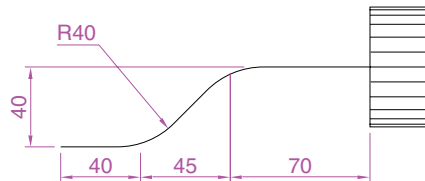

Fig. 19.1 First example – **Extrude faces tool** – first stages
2. In the UCS ***RIGHT*** plane construct a cylinder of radius **30** and height **30** (Fig. 19.1).
3. In the UCS ***FRONT*** view construct the pline in Fig. 19.1. Mirror the pline to the other end of the cylinder.